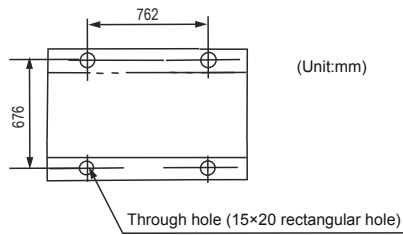

Fig.4-5
- The distance of the foundation bolt is shown in Fig. 4-5.